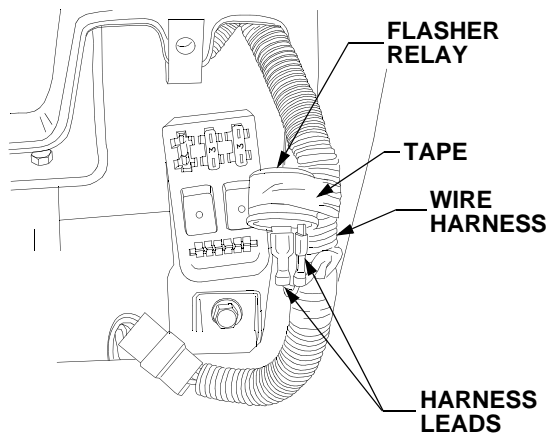

Figure 43
- Pull the wire harness from the dash opening. Cut and remove the electrical tape holding the flasher relay to the harness. See Figure 43